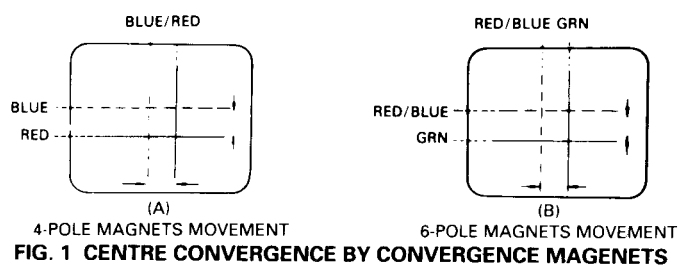

FIG. 1 CENTRE CONVERGENCE BY CONVERGENCE MAGNETS
- a. Locate the pair of 4 pole magnet rings. Rotage individual rings (Change spacing between tabs) to converge the vertical red and blue lines. Rotate the pair of rings (maintaining spacing between tabs) to converge the horizontal red and blue lines. (Refer to fig. 1 (A))
- b. After completing red and blue centre convergence, locate the pair of 6 pole magnet rings. Rotage individual rings (change spacing between tabs) to converge the vertical red and blue (Magenta) and green lines. Rotate the pair of rings (maintaining spacing between tabs) to converge the horizontal red and blue (Magenta) and green lines. (Refer to Fig. 1(B))